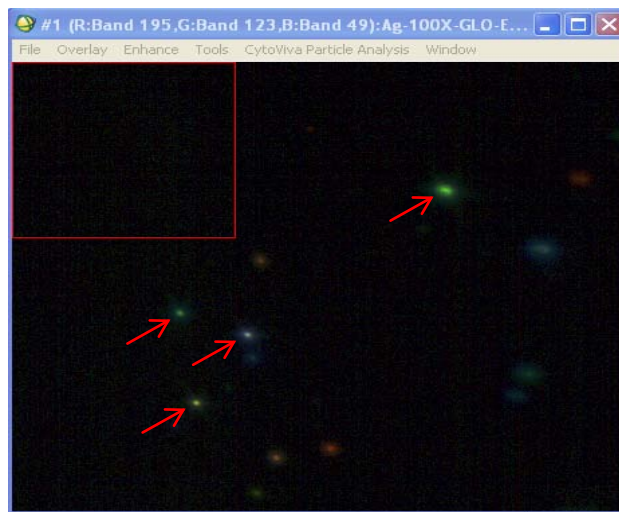
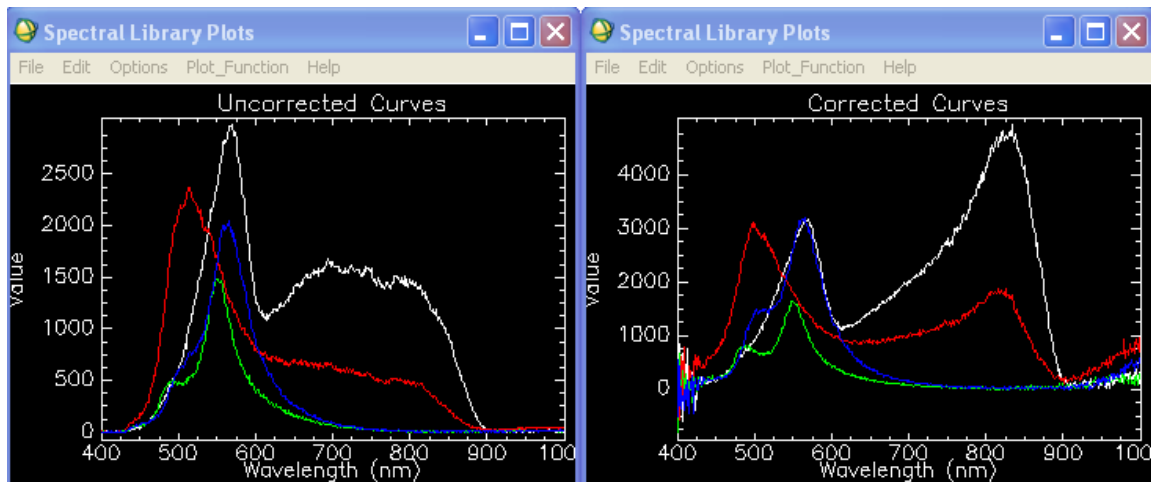

Figure 4. Main image window with four nanoparticles of interest
Figure 5. Left: uncorrected spectra of particles, Right: corrected spectra using lamp normalizing feature
12. For the example with silver nanoparticles (See Figure 4), the input image is shown (arrows point at nanoparticles with spectra of interest). Figure 5 shows the uncorrected spectra from the nanoparticles on the left, and corrected spectra of the same particles on the right.